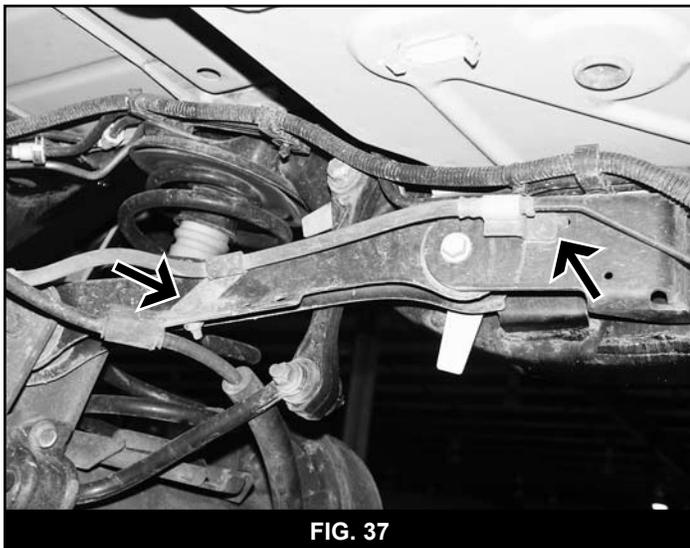

FIG. 37
6. Disconnect the sway bar links from the sway bar and the frame (Fig 37). Discard the links and hardware. Note: If the upper nuts tabs are in good condition they can be reused to install the new sway bar links later.
7. Disconnect the clips retaining the emergency brake cable and rear brake hose to the rear upper control arms (Fig 37).
8. Remove bolt holding the rear brake line to driver's side frame (Fig 37). Retain bolt.